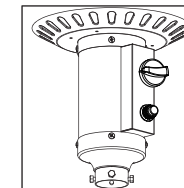

Figure 1
2. Press and turn the control knob to HIGH (maximum) position (anti-clockwise 90°). (Figure 1)